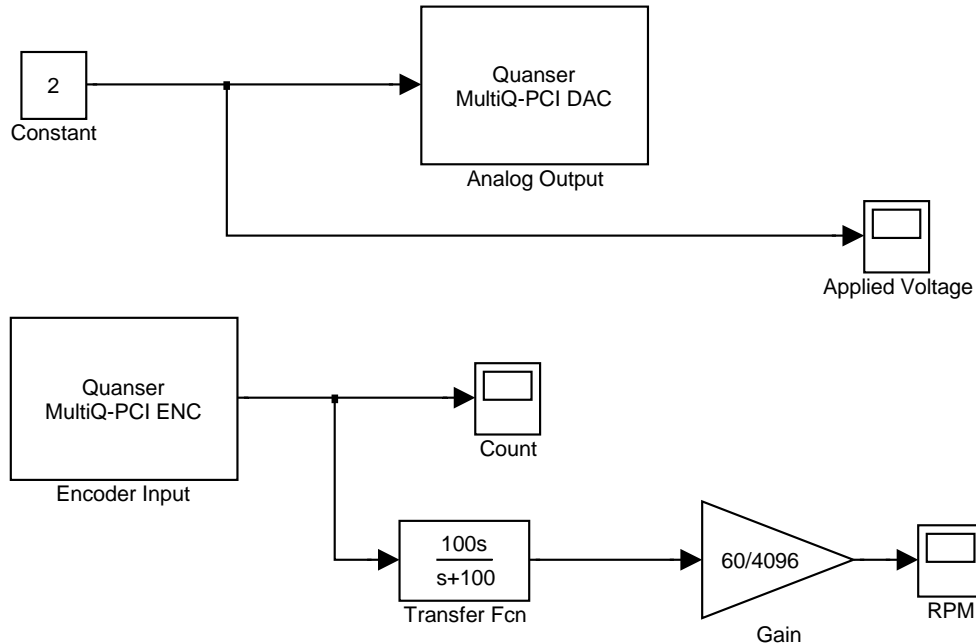

Figure 5: Model for measuring the angular speed of the motor for a given input voltage.
1. Create the model shown in Fig. 5.
1. Give the motor an applied voltage of 5 V and run it for about 30 seconds to warm it up. *Use the model from the angular speed section above (Fig. 5). We need to make sure the motor is warm because we only want to model its behavior in its warmed-up state. The friction may be different when the motor is cold.*